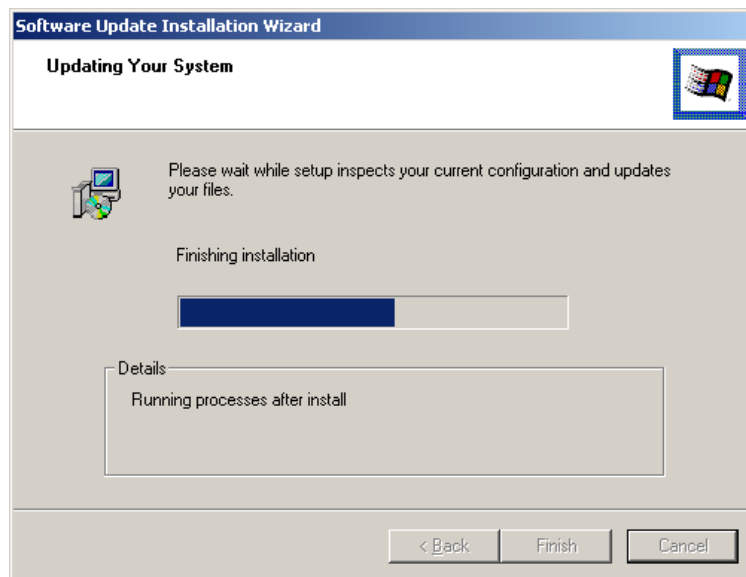

Figure 7-38: Installation Wizard Updates the System
Step 9: The Installation Wizard updates the system as shown in **Figure 7-38**.